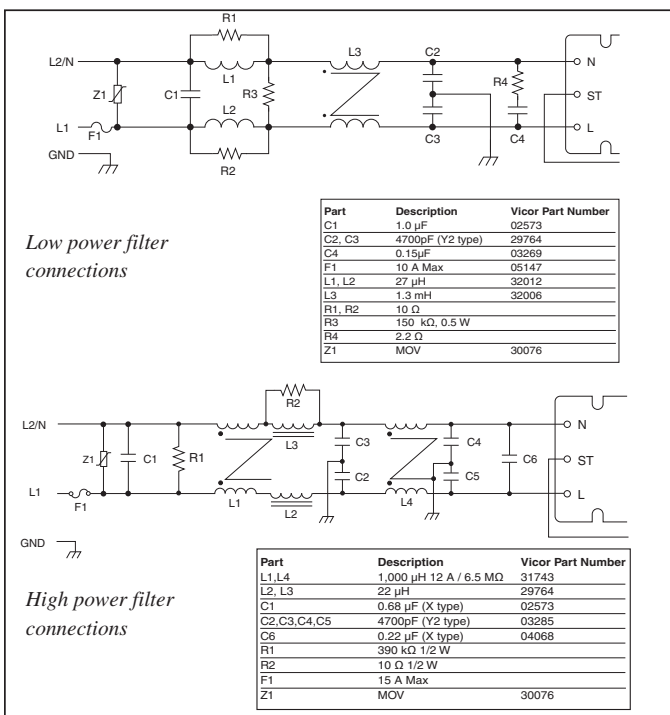

Figure 13 — Filter connections
**Filter.** Two input filter recommendations are shown for low power VI-ARM-x1 and high power VI-ARMB-x2 (See Fig. 13). Both filter configurations provide sufficient common mode and differential mode insertion loss in the frequency range between 100 kHz and 30 MHz to comply with the Level B conducted emissions limit.